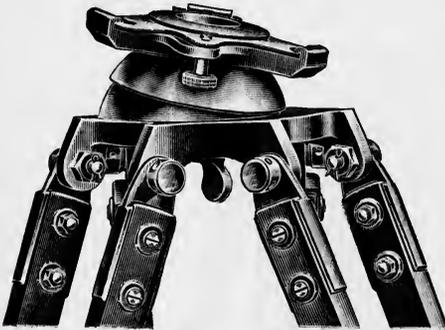

Fig. 11.
57. Centering and levelling arrangement to stand of 5-in. or 6-in. instruments. *Figs. 11 and 12* £3 os. od.